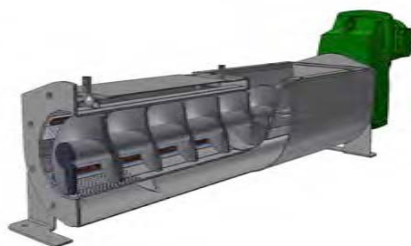

Figure 2, Wash press body incl. wear bars and transport screw
2. Machine body including wear bars and transport screw, Figure 2.